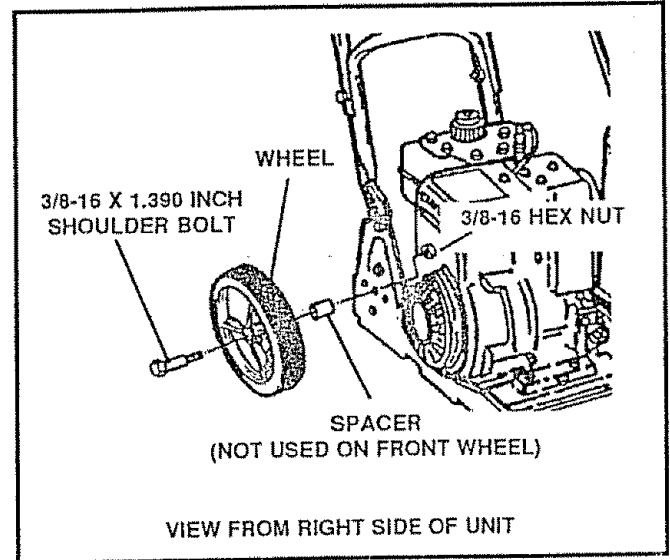

FIG. 2
- Attach each rear wheel, with the ribs to the outside, to the edger (See Fig. 2) with a 3/8-16 x 1.390 inch shoulder bolt, spacer and 3/8-16 hex wide flange lock nut (found in parts bag).
- Attach the front wheel, with the ribs to the outside, to the edger (See Fig. 2) with a 3/8-16 x 1.390 inch shoulder bolt and 3/8-16 hex wide flange lock nut (found in parts bag).